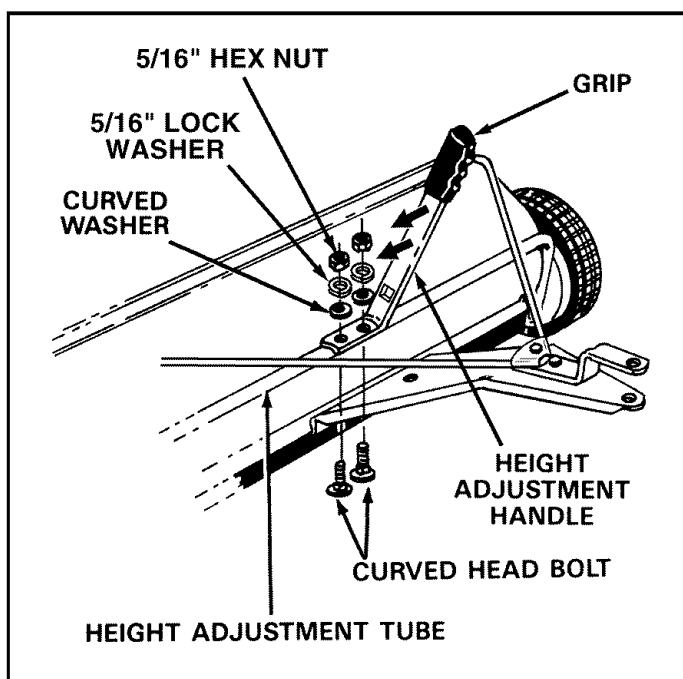

FIGURE 4
- Remove the two 5/16" hex nuts, 5/16" lock washers and 5/16" curved washers from the height adjustment tube. Assemble the height adjustment handle to the two curved head bolts in the height adjustment tube. Slide the handle as far as possible in the direction of the arrows in figure 4. Reassemble the two 5/16" lock washers, 5/16" curved washers and 5/16" hex nuts and **tighten**. See figure 4.
- Assemble the grip onto the height adjustment handle. See figure 4.